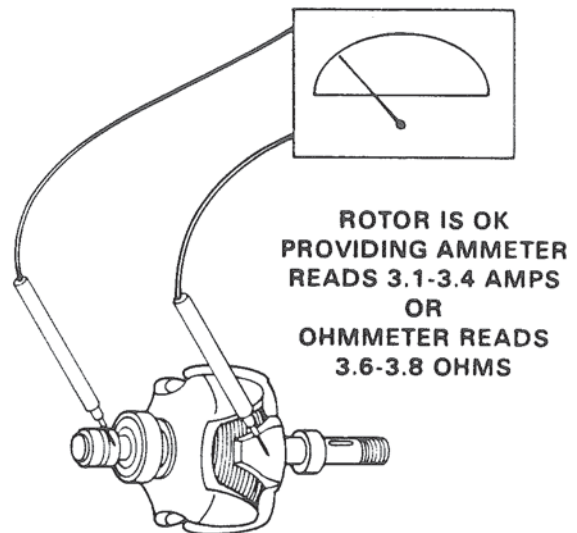

Figure 26. Test for Grounded or Open Windings.
B. Test for shorted windings is shown in Figure 26.